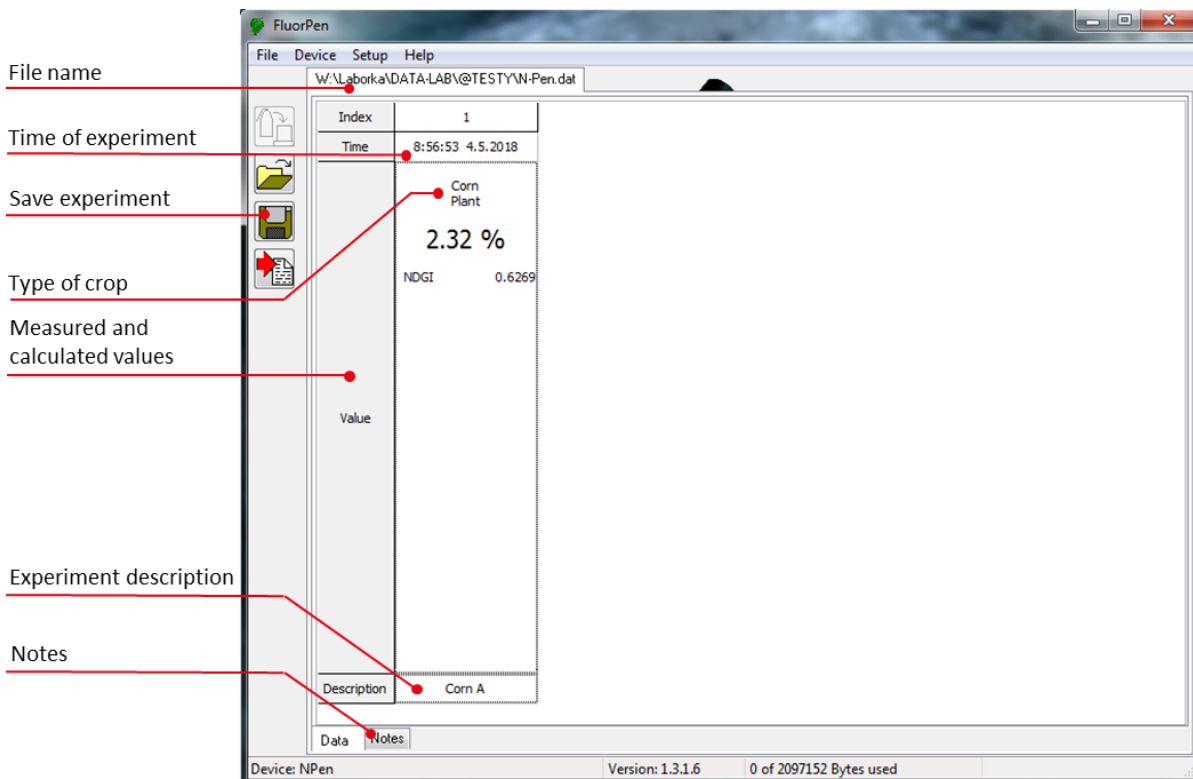

Fig. 21 Example of data transfer.
3. The Data table appears (Fig. 21).